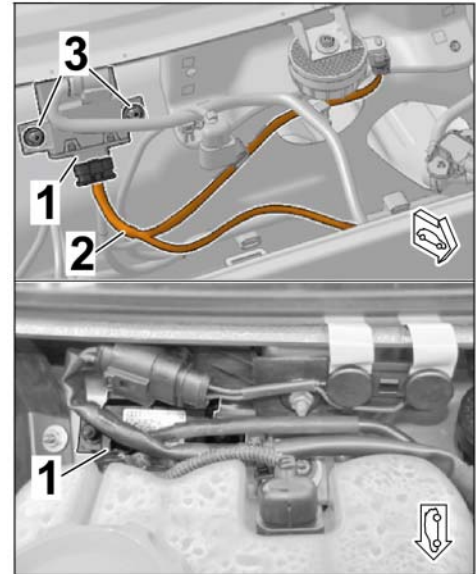

Figure 19
- 2.2 Install engine noise control unit (⇒ *Figure 19*)
2.2.2 Position the engine noise control unit on stud bolt M6 (2 x) in the water tank and fasten with hexagon collar nut (2 x) (\Rightarrow Figure 19).